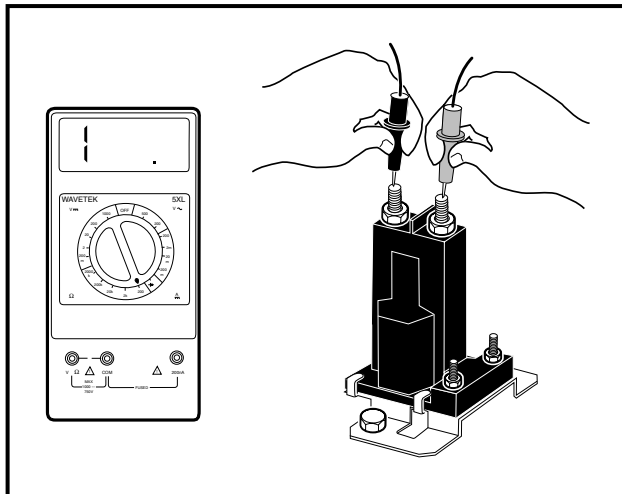

Figure 11-18 Solenoid Contacts – Power Off
1. Place the red (+) probe of a multimeter (set at  $\Omega$ ) on one of the large terminal posts on the solenoid, and place the black (-) probe on the other large terminal post on the solenoid. The reading should be no continuity (**Figure 11-18, Page 11-15**).